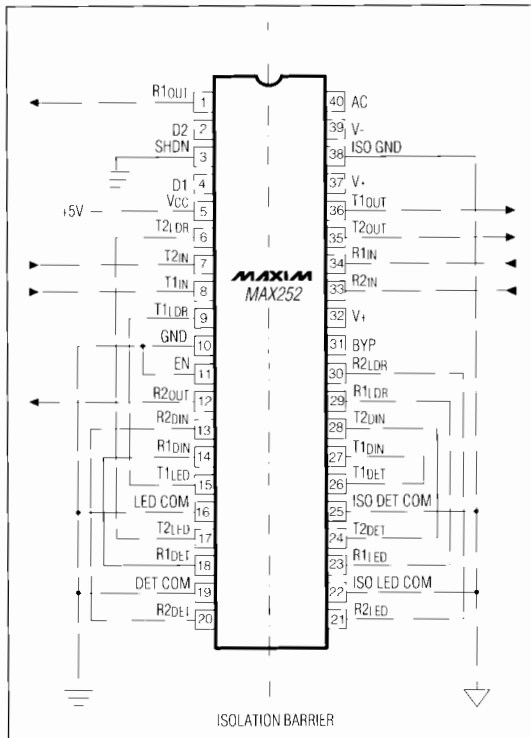

Figure 1. Typical Interconnections
Figure 1 shows the typical interconnection for a complete 9600 bits/sec. transceiver. Important layout considerations include:
* For maximum isolation, the isolation line through the center of Figure 1 should not be breached; connections from each side should be kept separate.